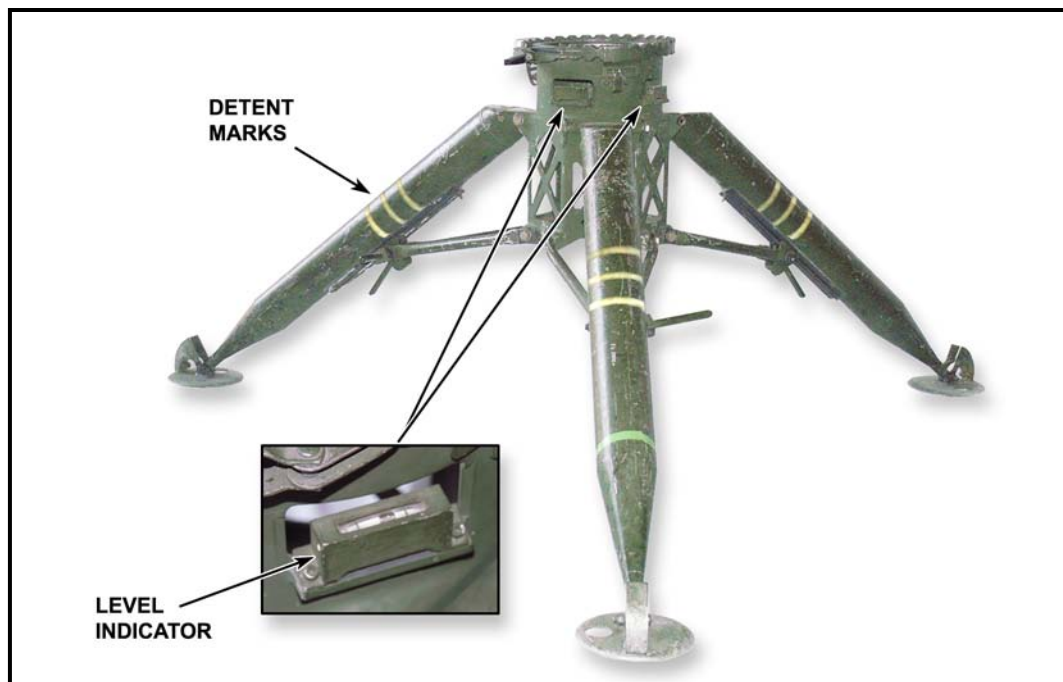

Figure 2-1. Tripod indicators.
a. **Level Indicators.** The two level indicators on the tripod indicate when the tripod is level. They are helpful when trying to set up the system on uneven terrain. (Figure 2-1).
b. **Detent Stop Markings.** These markings on each leg denote three adjustable height positions for assembly. The detent automatically locks into each position, beginning with the lowest, as the operator lifts up on the tripod body to adjust the height (Figure 2-1).